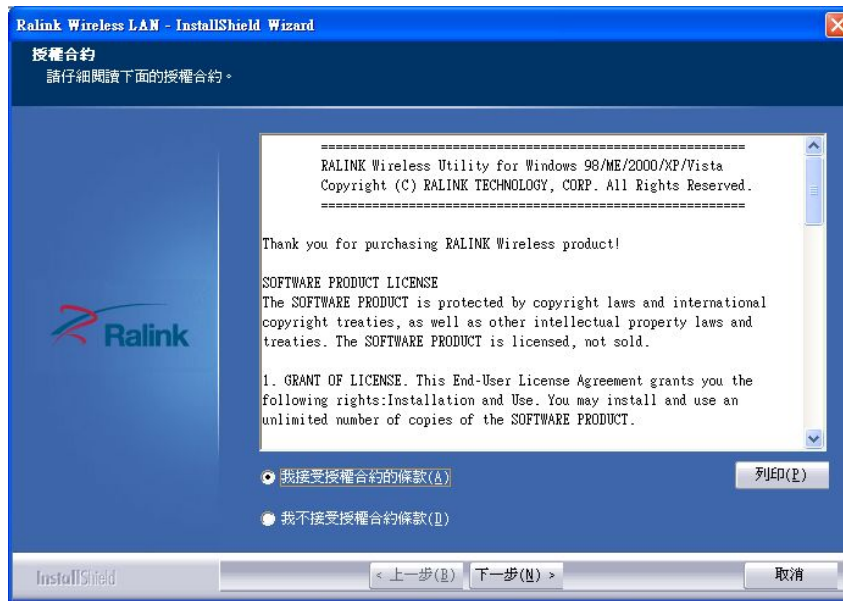

Figure 6-30: Wireless Driver License Agreement
- Step 3:** The license agreement in **Figure 6-30** appears.